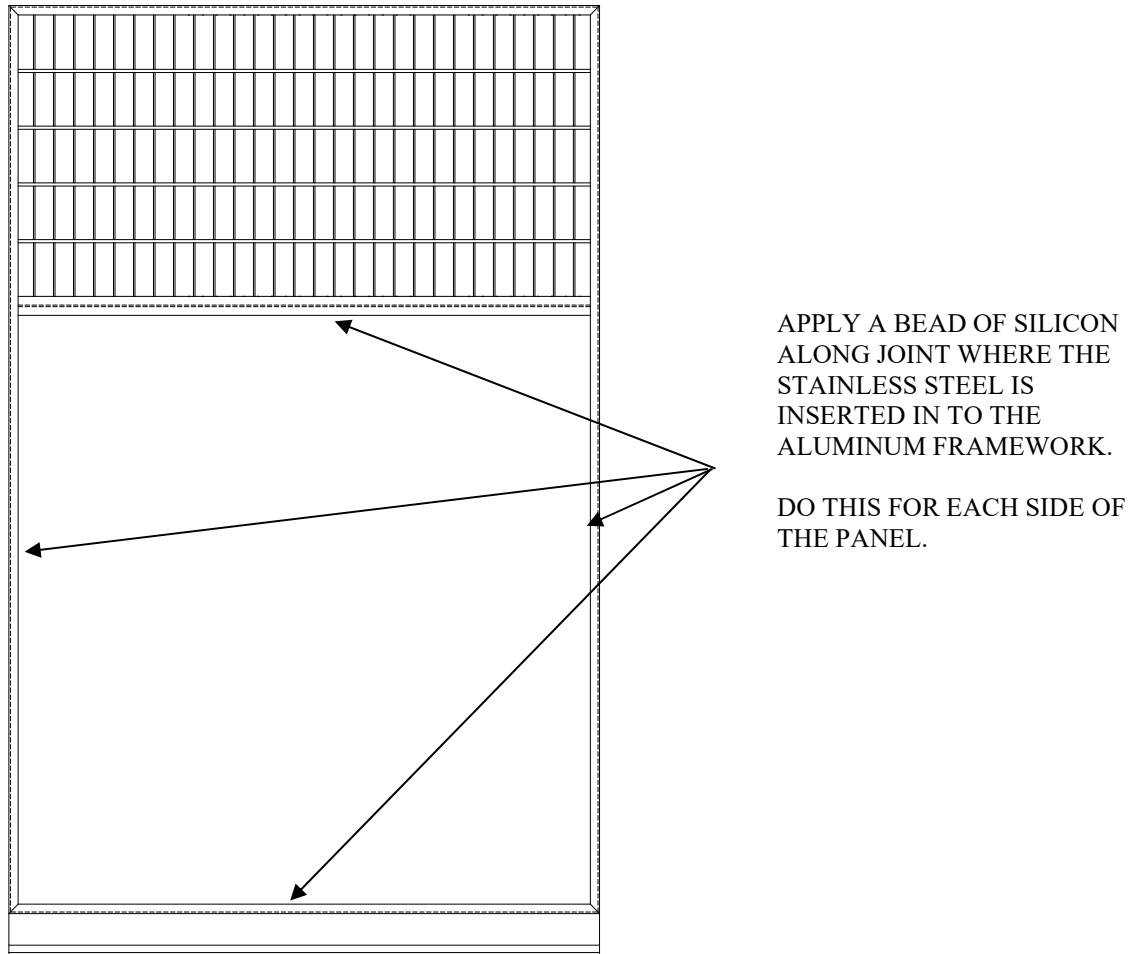

Figure 22
3. **If your system is built with Stainless Steel panels you will need to seal the perimeter of the stainless steel on both sides of the panels. Apply a thin bead and wipe away excess with denatured alcohol applied to a shop rag. Refer to Figure 22.**